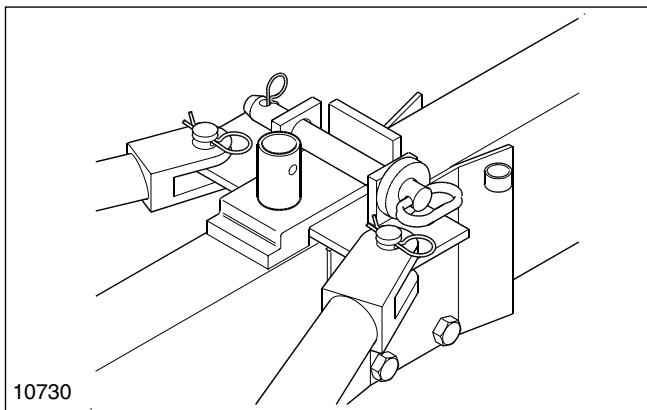

Figure 17
3. Remove pin from pull-bar transport lock, Figure 17, Pull-Bar Lock Pin InField Position.